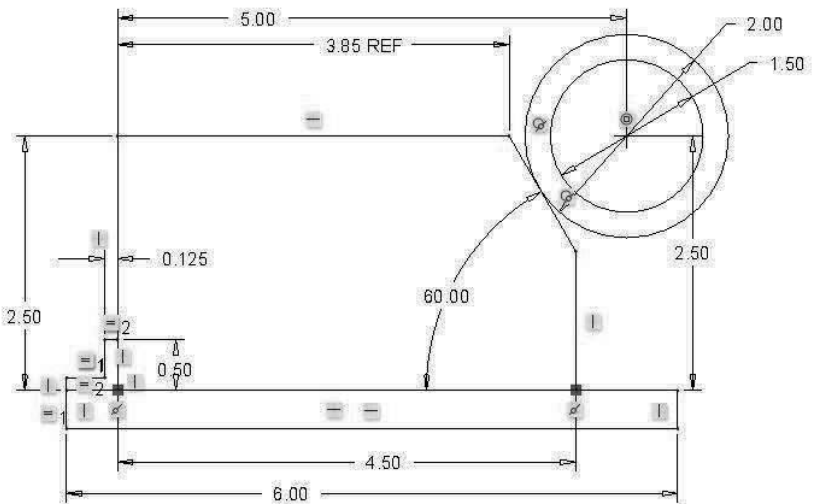

Figure 3-63 Jig Design 1b
**Step 27:** Modify the dimensions according to Design\_1b’s parameters shown in Table 3-2 and Figure 3-63. To modify a dimension *double-click* on its value using the LMB, and then type a new value followed by the <Enter> key.